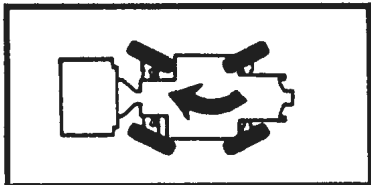

Figure 5-10. Coordinated Steering
3. **Coordinated** (rear wheels turn the opposite of the front wheels; steering mode selector in forward position): Coordinated steering provides the greatest maneuverability and is the mode of steering most often used. Refer to Figure 5-10.